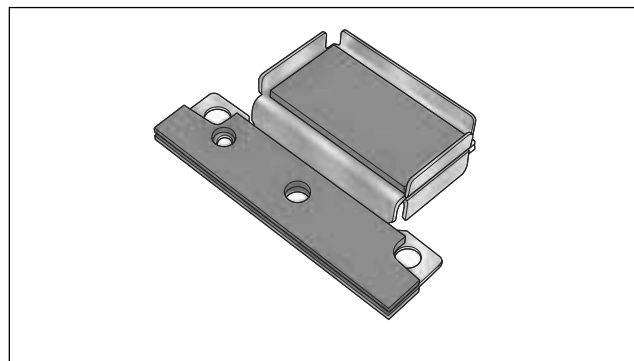

Figure 2-60. Brake Caliper Piston Remover (Part No. HD-43293A)
- a. Obtain BRAKE CALIPER PISTON REMOVER (Part No. HD-43293A). See Figure 2-60.